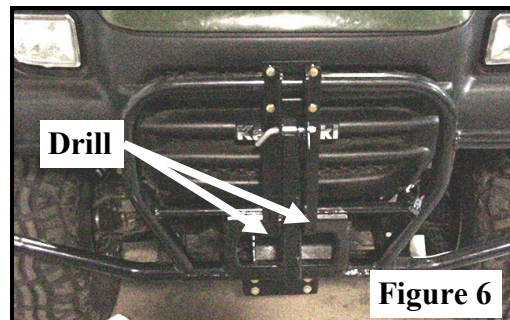

Figure 6
**D) (FIG. 6)** Install the left and right chassis brackets with four  $\frac{5}{16}$ " x  $1\frac{1}{4}$ " bolts, and bumper bracket provided. Install the lift arm with one of the  $\frac{1}{2}$ " quick release pins as shown before tightening the bolts. Confirm the assembly is centered on the bumper and drill 2 holes into the front of the bumper as shown. Attach the bottom of the assembly to the bumper with  $\frac{5}{16}$ " x  $1\frac{1}{4}$ " bolts through these holes.